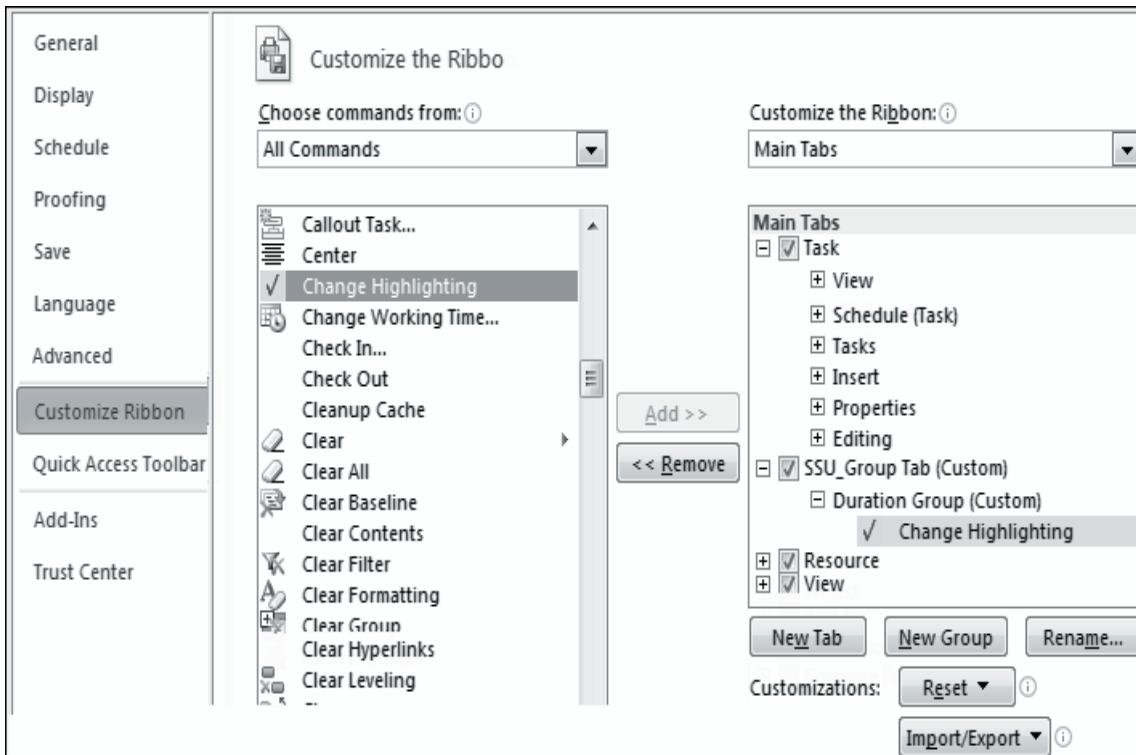

Figure 10.16: Customizing Ribbon with Change Highlighting Feature
5. Drag **Change Highlighting** from the list of **All Commands** onto the new custom group on the created custom tab in the list on the right as shown in figure 10.16.